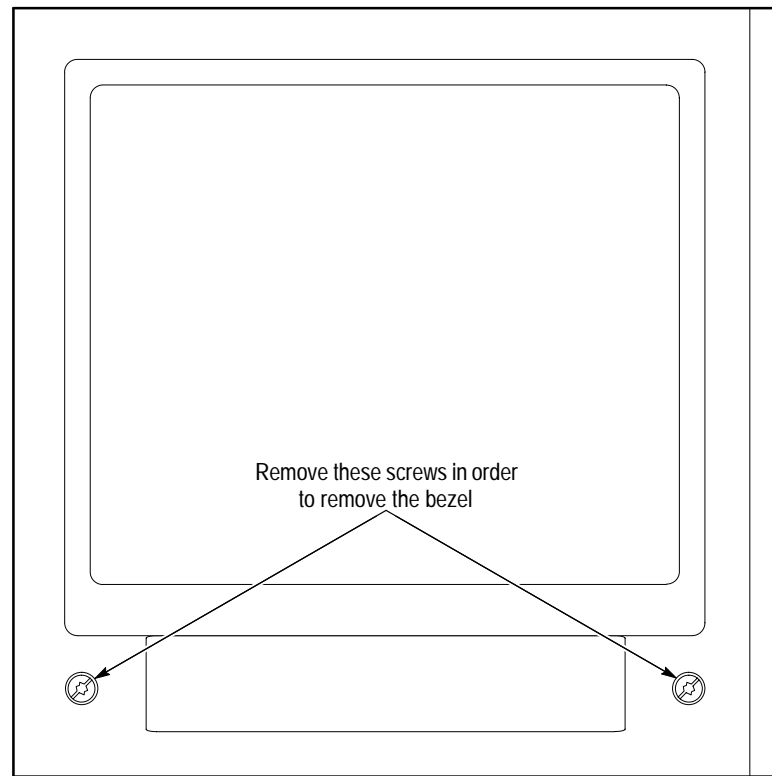

Figure 6-3: Screws that need to be removed to remove the bezel.
1. Remove the two bezel screws. See Figure 6-3.